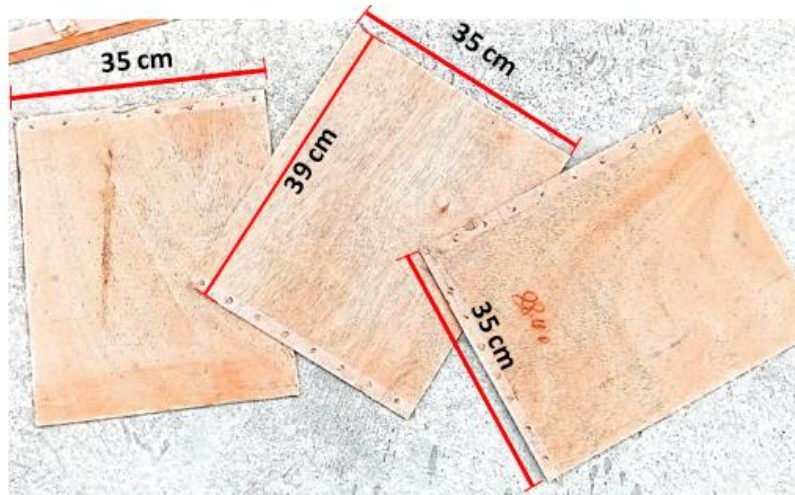

Figure 3: triplex for lower bases
3.- For the base measure and cut 3 triplexes of 35 cm x 39 cm (Figure 3).